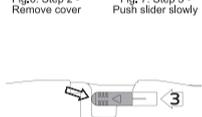
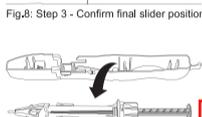

Fig.7: Step 3 - Push slider slowly
Fig.8: Step 3 - Confirm final slider position
- Hold injector body with thumb and slowly push the slider forward in an even manner for about 3 seconds, without applying upward or downward pressure, until it stops (Fig.7). Verify the slider stops at the injector case (as indicated in Fig. 8, by the arrow), DO NOT pull the slider back. After slider advancement, implant the IOL within 3 minutes.